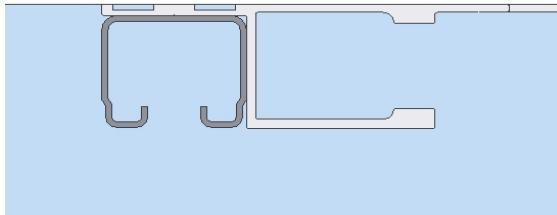
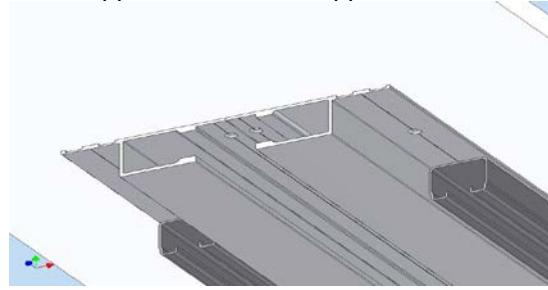

Figure 4.1a. Positioning Track
Figure 4.1b. Staggered Track and Chain Guide Joints
Locate the (2) Load Sections of track. Position (1) of the track load sections so that the edge is butted tightly against the striker wall and **the inside edge is tightly butted up against the chain guide** as shown in **Figure 4.1a**. Use the label on the section to determine orientation. Check to see that the holes in the track and chain guide are aligned. Make sure that the joints of the track and chain guide are staggered by approximately 6”, as shown in **Figure 4.1b**. Use the 4” x #10 screws provided to mount the track to the header. Repeat for remaining Load Section.